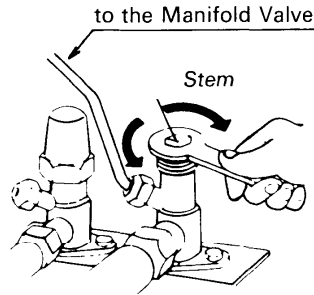

Fig. 11
- Remove the cap from the wide tube service valve and turn the stem gradually until it is back seated. Fig. 11